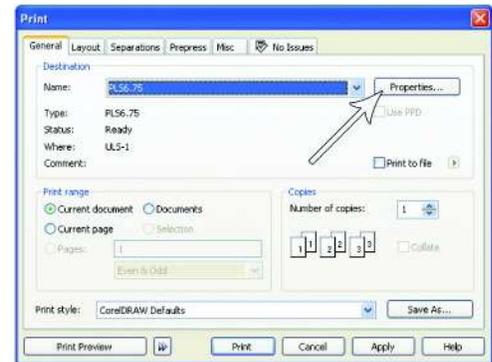

Figure 4
2. When you are ready to print the job, select PRINT from the CoreIDRAW FILE menu. Make sure that your laser system printer driver appears in the DESTINATION NAME dropdown list, and then click PROPERTIES (Figure 4) to display your laser system printer driver settings (Figure 5).
7. Now Select PRINT in the Print dialog window (Figure 4).